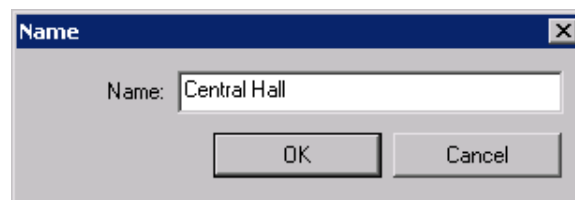

Figure 9-40 Naming the massing geometry
- c. Create the massing geometry using the **Solid Form** and **Solid Extrusion** tools, refer to Figures 9-40 through 9-43.
4. In the **Name** dialog box, enter the name **Central Hall**, as shown in Figure 9-40, and choose the **OK** button.